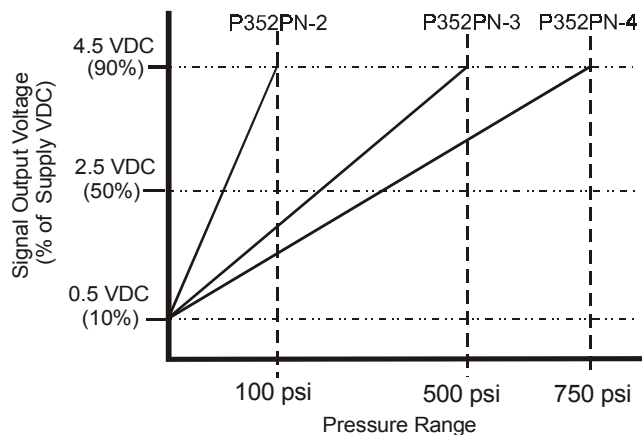

Figure 8: Transducer Pressure vs. Output Signal Voltage
- The transducer output signal voltage (V_o) increases proportionally to an increase in the pressure at the transducer (psi_T). Use the graph in Figure 8 to compare the measured signal voltage to the measured pressure. Or use the formula below to compare the voltage and pressure values.